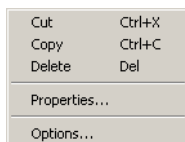

Figure 4-57. Coordinate File Pop-up Menu
8. To edit coordinate file information, right-click one of the point rows to display the coordinate file pop-up menu (Figure 4-57).